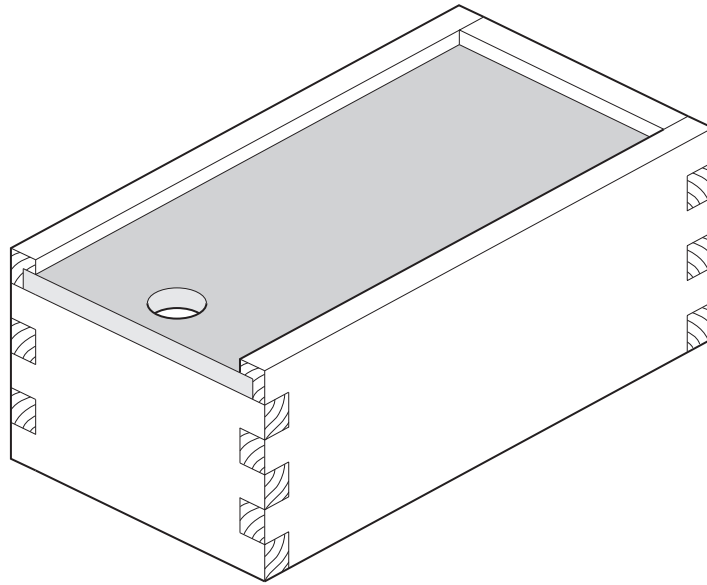

Fig. 2
- 2 Fig. 2 shows a wooden box which is to be made in a school workshop. The box has a sliding top.